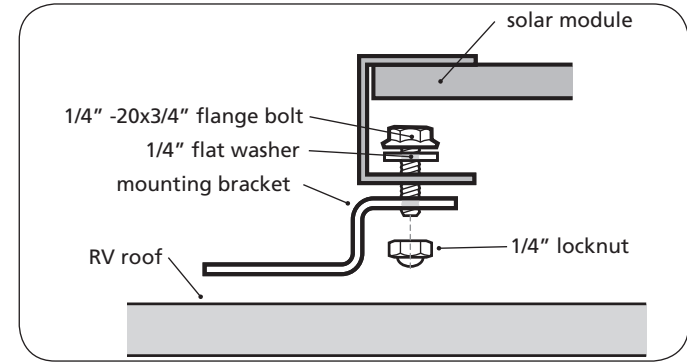

Fig. 7. Attaching solar panel to 5-hole mounting bracket
3. Fix the mounting brackets to the frame of the previously positioned solar panel using the slotted opening and the 1/4" - 20 x 3/4" Flange Bolt, Nylon Locknut and flat washer (Fig. 7). Using a 7/16" wrench, tighten the nuts to secure the mounting brackets to the PV panel. Recommended tightening torque is 15 lbs.